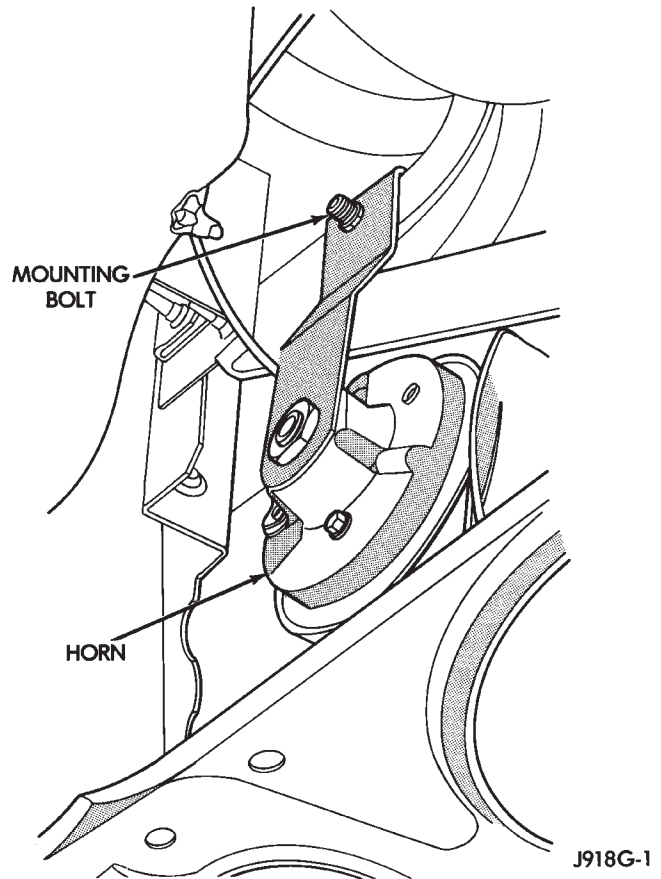

Fig. 4 Horns Remove/Install
(4) Remove the screw that secures the horn and mounting bracket unit to the radiator closure panel brace (Fig. 4).